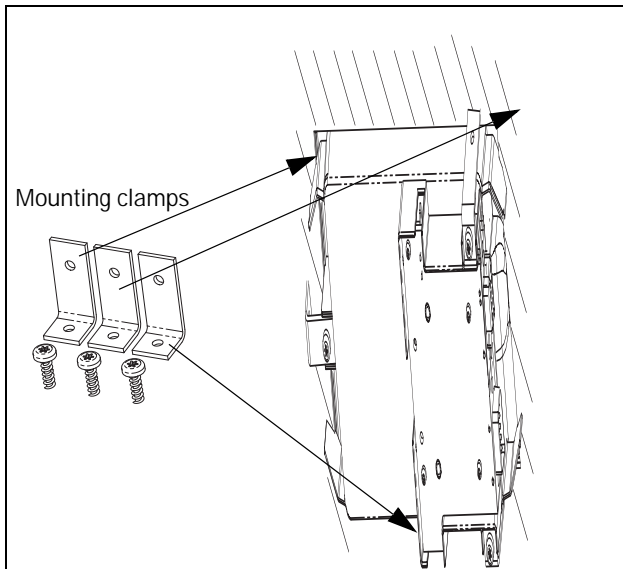

Fig. 4 Mounting the mounting frame using the mounting clamps.
3. Fasten the mounting frame in the cabinet door from the inside using the three mounting clamps and screws according to the Fig. 4.